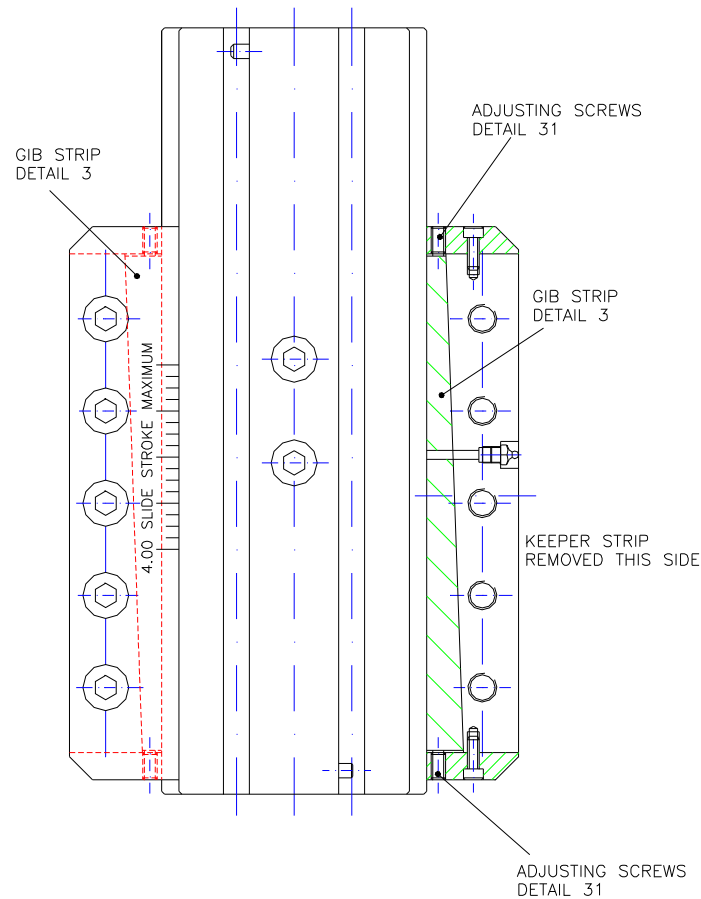

Fig 2.03 Gib strip adjustment
4. Carefully slacken the adjusting screws (*detail 31*) until minimum clearance is achieved (*See fig 2.03*)